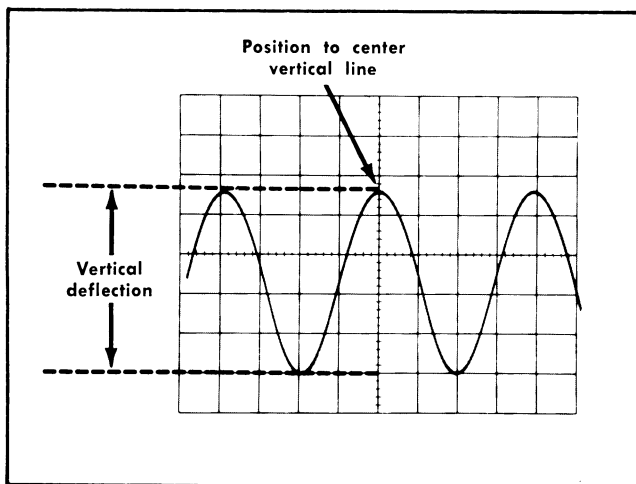

Fig. 1-1. Measuring peak-to-peak voltage of a waveform.
4. Turn the vertical Position control so that the lower portion of the waveform coincides with one of the graticule lines below the center horizontal line, and the top of the waveform is in the viewing area. Move the display with the horizontal Position control so that one of the upper peaks is aligned with the center vertical reference line (see Fig. 1-1).